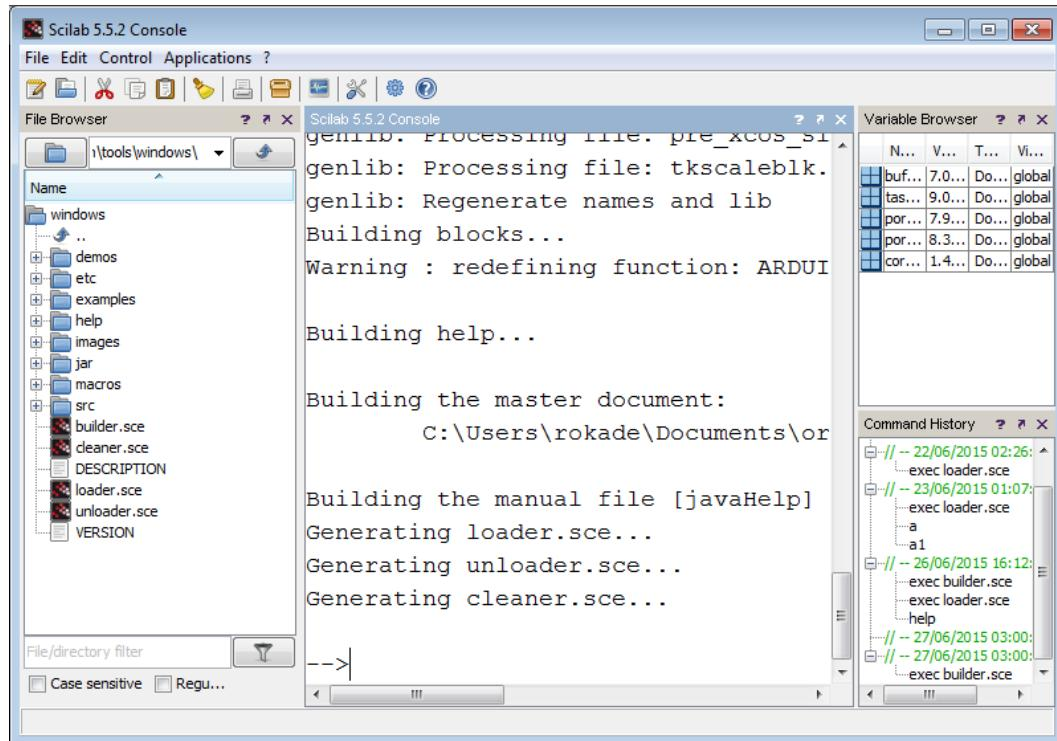

Figure 3.10: Output of builder.sce
4. After the previous step, the Scilab working directory becomes the toolbox folder. See the **file browser** panel on the left-hand side of the Scilab console, see Fig. 3.10. It will list out the contents of your current working directory. For a check, look for the file **builder.sce**. If you see this file, then you are in the right directory.
5. Next, type the following command on the Scilab console: **exec builder.sce** - this will build the toolbox and create a file **loader.sce**. This step has to be executed only the first time. The output of this step is illustrated in Fig. 3.10.